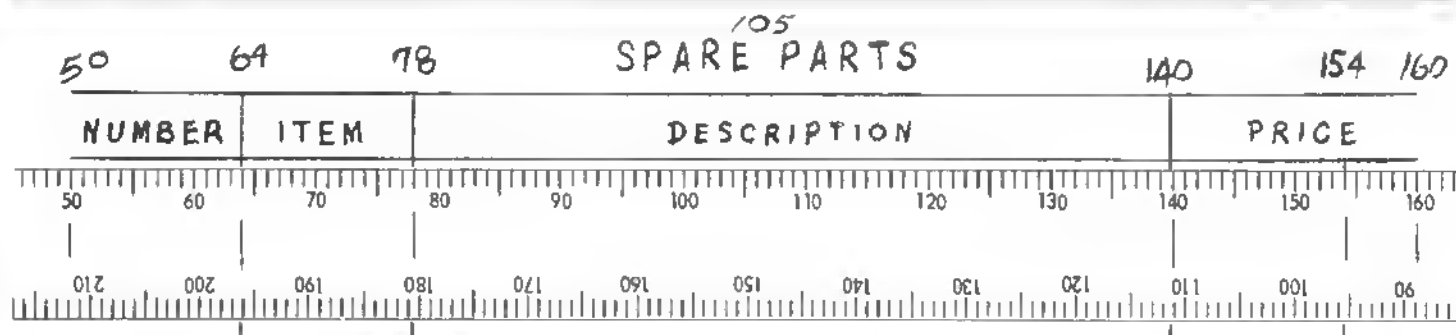

Figure 63
1. Loosen thumb screw and remove **horizontal plotting scale (34)** from machine.
2. Place it on rough draft so its "C" edge is toward top of form and align 50 mark with left margin of form (Figure 63). Form is 110 "C" units wide ( $160 - 50 = 110$ ).